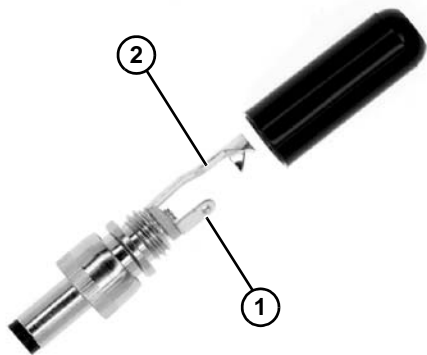

Figure 25
2. Wire and solder DC power to the two terminals of the provided DC power plug. Wire +VDC to the short lug (**Figure 25, item 1**) and -VDC to the long lug (**Figure 25, item 2**).